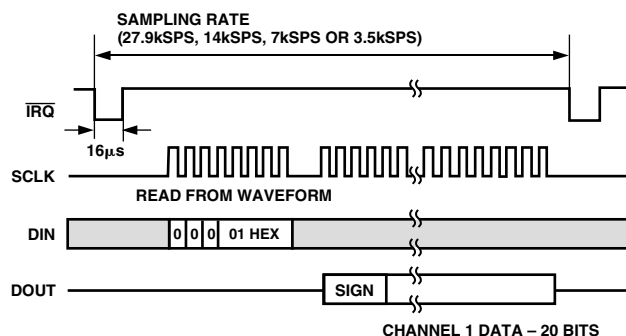
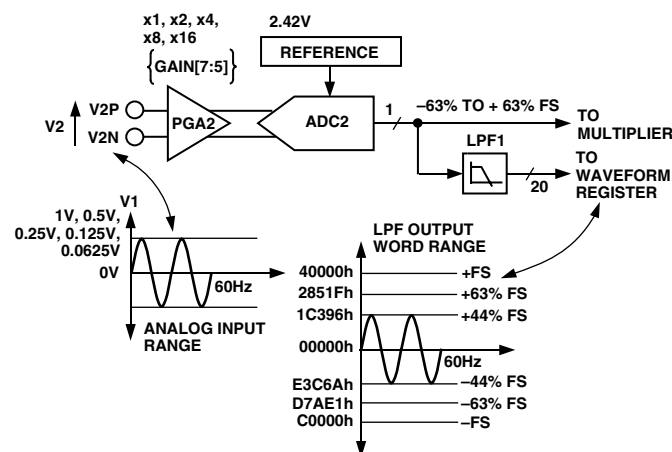

Figure 19. Waveform Sampling Channel 1
Figure 21. ADC and Signal Processing in Channel 2
Figure 21 also shows an analog low-pass filter (RC) on the input to the modulator. This filter is present to prevent aliasing. Aliasing is an artifact of all sampled systems.
When in waveform sample mode, one of four output sample rates may be chosen by using Bits 11 and 12 of the Mode register (WAVSEL1, 0). The output sample rate may be 27.9 kSPS, 14 kSPS, 7 kSPS or 3.5 kSPS—see Mode Register section. The interrupt request output  $\overline{IRQ}$  signals a new sample availability by going active low. The timing is shown in Figure 19. The 20-bit waveform samples are transferred from the ADE7756 one byte (8 bits) at a time, with the most significant byte shifted out first. The 20-bit data word is right-justified and sign extended to 24 bits (three bytes)—see Serial Interface section.
Note that LPF1 does not affect the power calculation. The signal processing chain in Channel 2 is illustrated in Figure 21. Unlike Channel 1, Channel 2 has only one analog input range (1 V differential). However, like Channel 1, Channel 2 does have a PGA with gain selections of 1, 2, 4, 8, and 16. For energy measurement, the output of the ADC is passed directly to the multiplier and is not filtered. An HPF is not required to remove any dc offset since it is only required to remove the offset from one channel to eliminate errors due to offsets in the power calculation. When in waveform sample mode, one of four output sample rates can be chosen by using Bits 11 and 12 of the Mode register. The available output sample rates are 27.9 kSPS, 14 kSPS, 7 kSPS or 3.5 kSPS—see Mode Register section. The interrupt request output  $\overline{\text{IRQ}}$  signals a new sample availability by going active low. The timing is the same as that for Channel 1 and is shown in Figure 19.
The Active Power signal can be read from the Waveform register by setting MODE[14:13] = 0,0 and setting the WSMP bit (Bit 3) in the Interrupt Enable register to 1. Like the Channel 1 and Channel 2 waveform sampling modes, the waveform data is available at sample rates of 27.9 kSPS, 14 kSPS, 7 kSPS or 3.5 kSPS—see Figure 19.